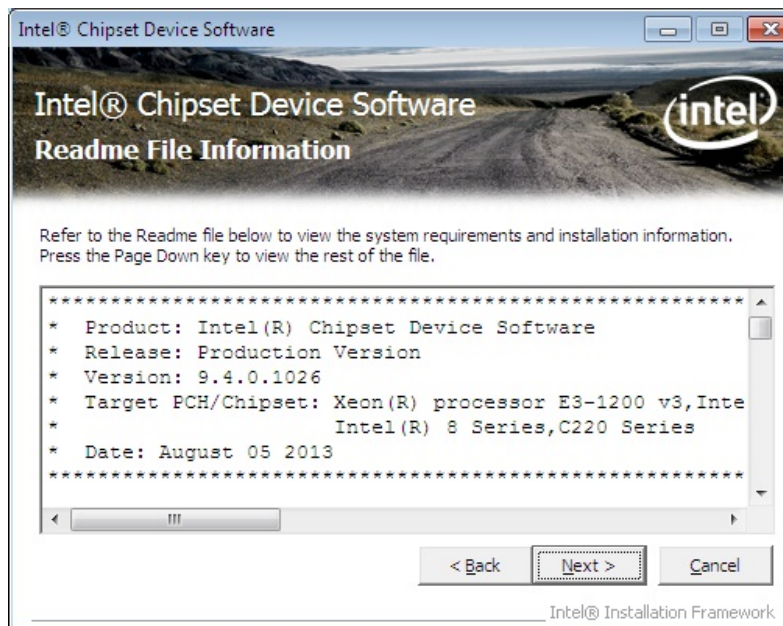

Figure 6-4: Chipset Driver Read Me File
Step 9: The Read Me file in **Figure 6-4** appears.